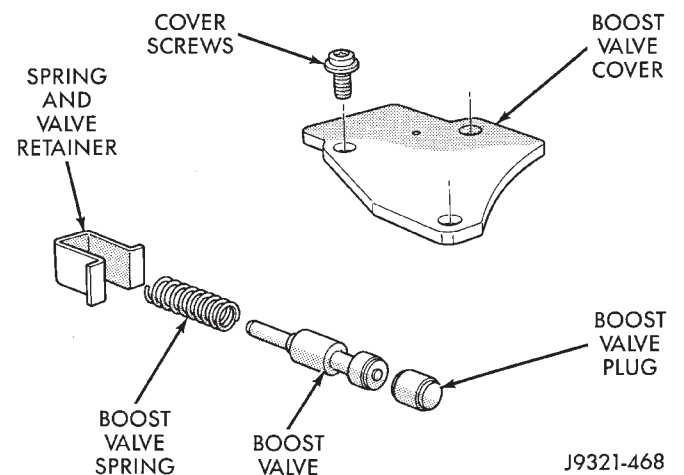

Fig. 53 Boost Valve Components
- (13) Remove boost valve retainer, valve spring and boost valve (Fig. 53).